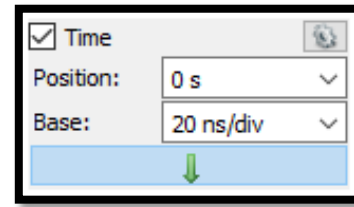

Figure 1: Appropriate time base for 4 MHz periodic function
- 1.5. Use the *Scope* feature in *WaveForms* to measure the clock signal and display the waveform frequency. Within the *Scope* window, display the frequency by selecting *View | Measurements*, and then within the *Measurements* window, navigate to *Add | Defined Measurement | Horizontal | Frequency*. To yield an accurate frequency measurement, set your time base to an appropriate value, like 20ns/div as shown in *Figure 1* below.